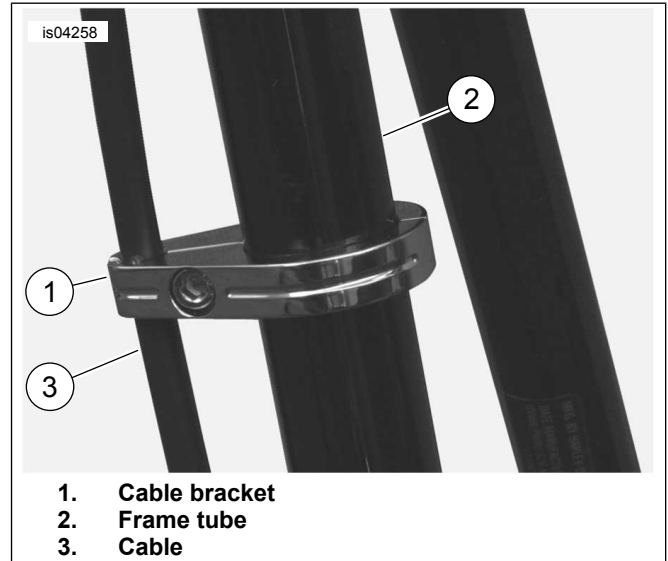

Figure 1. Bracket Installed
2. See Figure 1. Position the two halves of the cable bracket (1) on the frame tube (2) and cable (3) as shown. Mount the bracket between the clutch-cable boot and the bottom of the frame. Position the clamp so the cable is to the outside of the frame down tube.